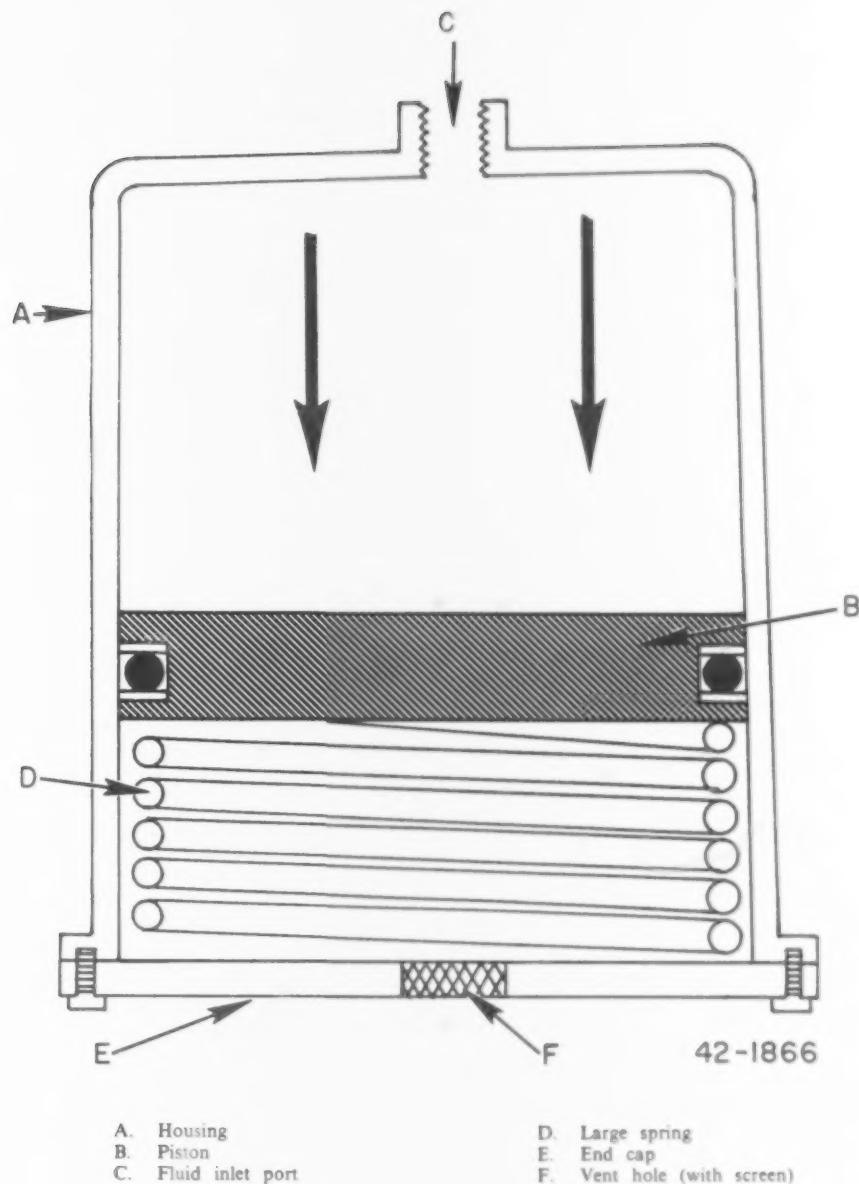

Figure 2-18. Compensator.
a. Spring-loaded. This type of accumulator is better known as a compensator—something which equalizes or balances two or more opposing things. In figure 2-18 you can see that the compensator construction consists of a housing (A), a piston with seal (B), a large spring (D), and an end cap (E). In some compensators an indicating rod attached to the piston protrudes through the end cap. This would be used to indicate the amount of fluid inside the compensator.